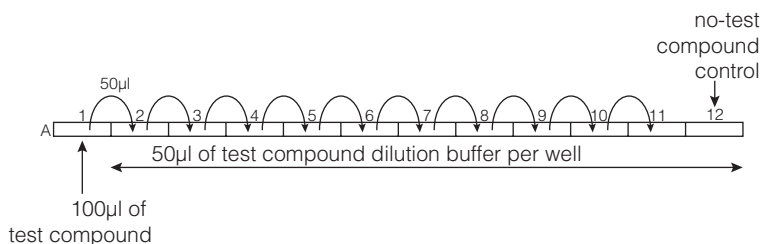

Figure 10. Dilution scheme for the test compound.
- Transfer 50μl from well A1 to well A2, and pipet to mix. Transfer 50μl to well A3, and mix well. Repeat for wells A3 through A11. Discard 50μl from well A11. Do not add any GSK126 to well A12 for the no-test compound controls. See Figure 10.